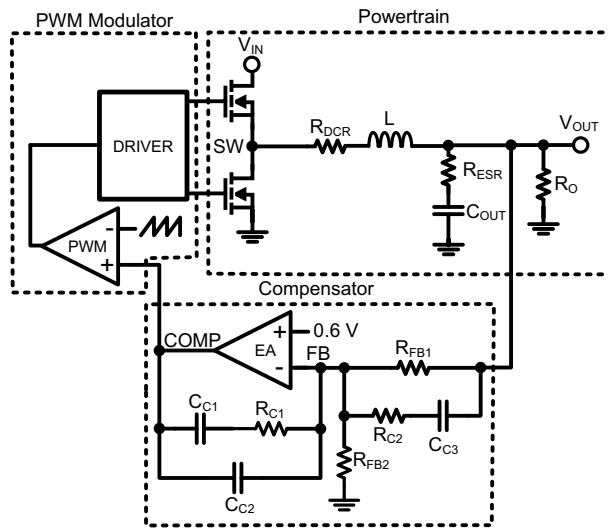
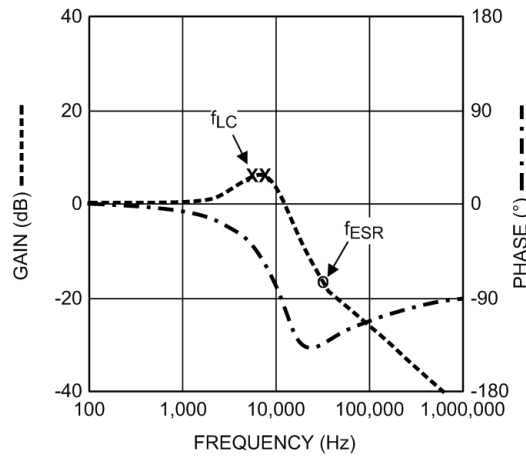

Figure 35. Control Loop Schematic Diagram
Figure 36. Powertrain Bode Plot
There are three main blocks of a voltage-mode buck switcher that the power supply designer needs to consider when designing the control system: power train, PWM modulator, and compensator. A diagram representing the control loop is shown in Figure 35.
The power train consists of the filter inductor (L) with DCR (RDCR), output capacitor (COUT) with ESR (effective series resistance RESR), and effective load resistance (RO). The error amplifier (EA) regulates the feedback (FB) voltage to 0.6V. The passive compensation components around the error amplifier establish system stability. Type-III compensation is shown in Figure 35. The PWM modulator establishes the duty cycle command by comparing the error amplifier output (COMP) with an internally generated ramp set at the switching frequency.
Figure 36 shows the bode plot of the above transfer function.
The complex poles ( $f_{LC}$ ) created by the filter inductor and output capacitor cause a  $180^\circ$  phase shift as seen in Figure 36. The phase is boosted back up to  $-90^\circ$  by virtue of the output capacitor ESR zero. The phase shift caused by the complex poles must be compensated to stabilize the loop response. The compensation network shown around the error amplifier in Figure 35 creates two poles, two zeros and a pole at the origin. Placing these poles and zeros at the correct frequencies optimizes the loop response. The compensator transfer function is: